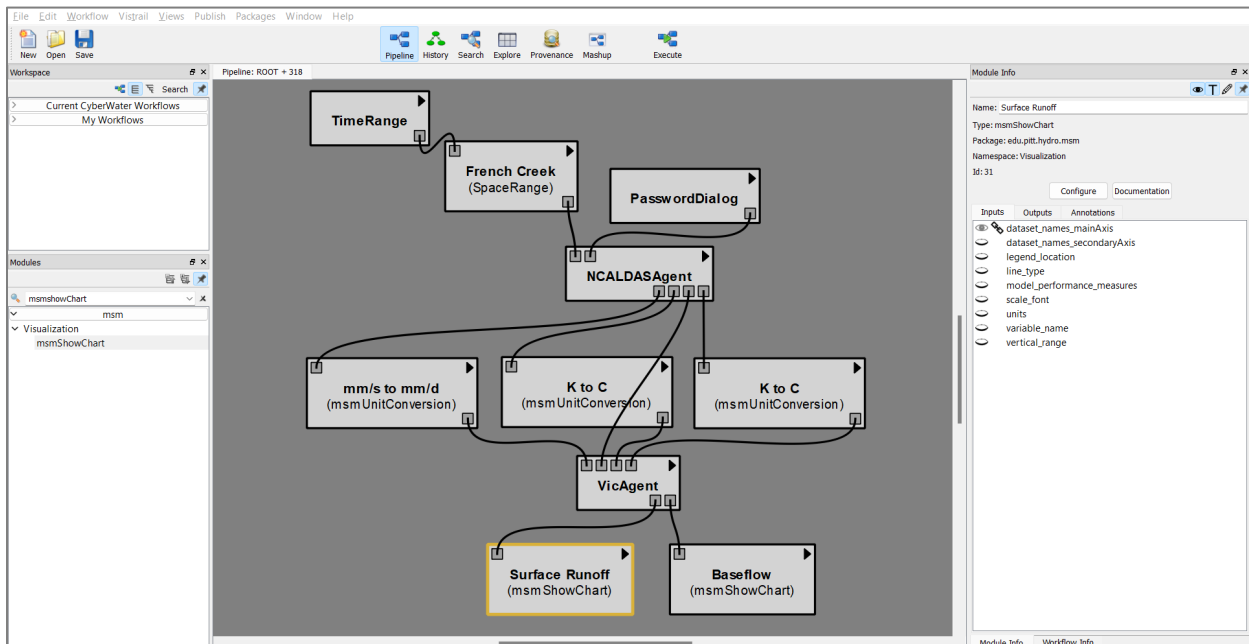

Figure 31. Workflow used to create a VIC simulation and plotting the results as time series using CyberWater.
- The last step before executing this workflow is to set up the visualization tools, which will allow us to see the results of the simulation. This can be achieved by adding two 'mismShowChart' boxes into the workflow and naming them 'Baseflow' and 'Surface Runoff', as shown in Figure 31.